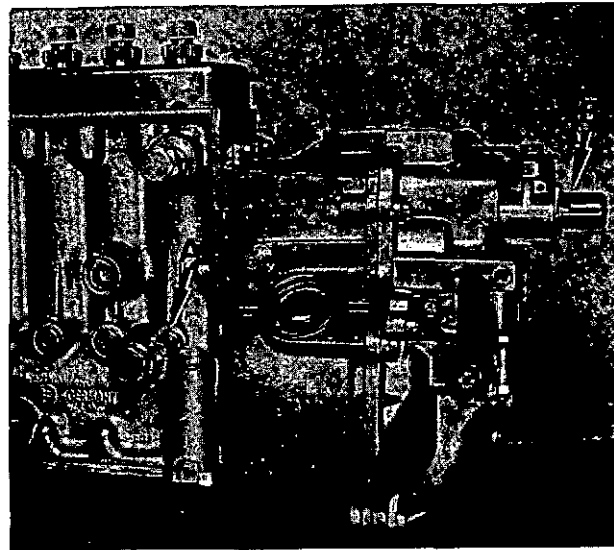

Fig. 59 Tappet access plug 'A'. Rack stop locknut 'B'
- (ii) Unscrew the access plug to No. 1 tappet (see fig. 59, Item 'A') and turn the camshaft until No. 1 tappet is approximately at BDC.
- (vi) Remove measuring rig 1 688 130 085, together with its gauge, and refit the blanking plug (fig. 59, Item 'A').
- (ii) Referring to Stage 'C' of the appropriate Test Schedule, run the pump at the speed quoted in the first column of the Table and measure the fuel delivery from each element. Compare the results with the fuelling figure shown on the Rolls-Royce data plate affixed to the side of the governor. Adjust, if necessary, by altering the setting of the rack stop. Referring to fig. 59, remove the cover 'B', slacken locknut and screw the stop clockwise to reduce fuelling, or vice versa as required.